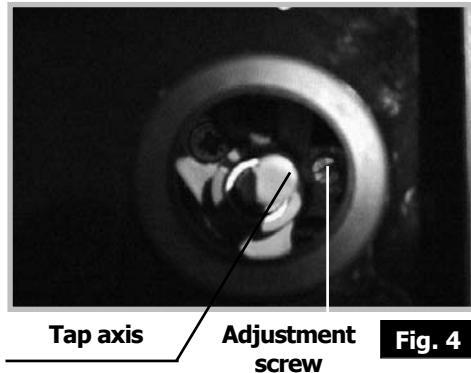

Fig. 4
- ⇒ Using the small screwdriver, unscrew the brass, adjustment screw (yellow) **turning it round twice, anti-clockwise (Fig. 4).**